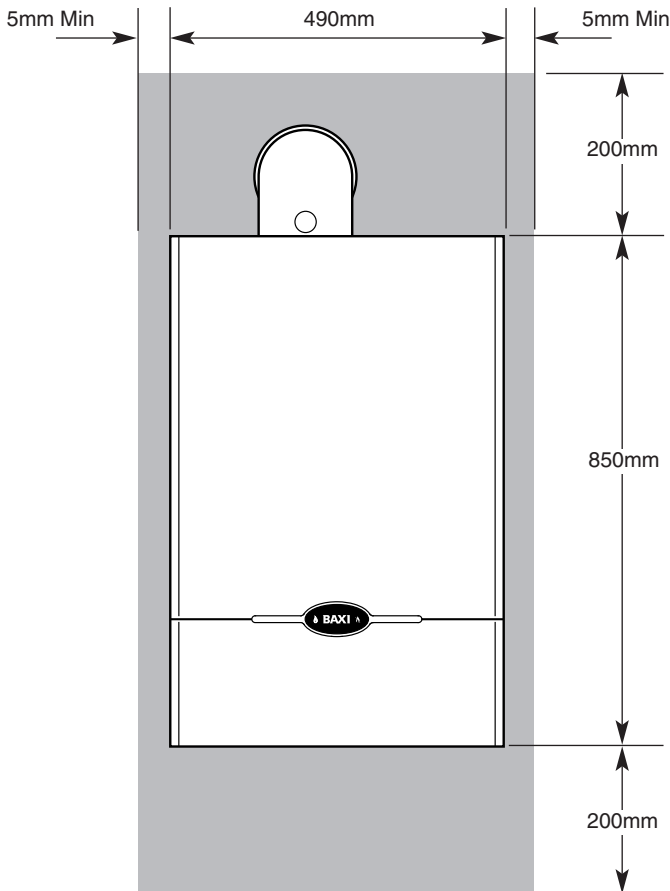

Fig. 8
3.1 Clearances around the Boiler (Figs. 8 & 9)